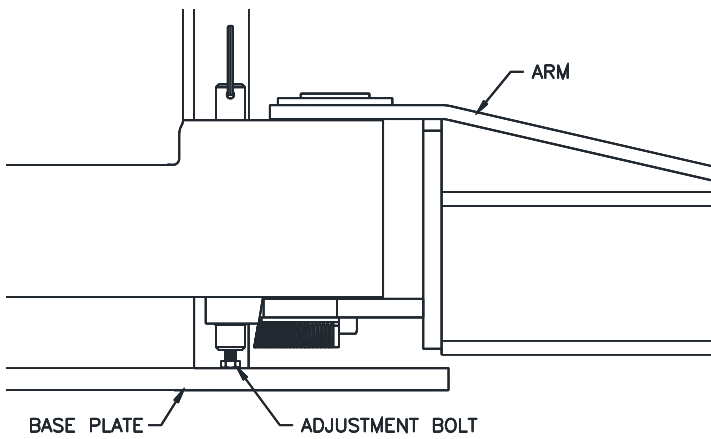

Fig. 19-Bolt Adjustment
- 43) Adjust the hex head bolt in the bottom of the arm restraint shaft so the arm is allowed to rotate freely when lift is completely lowered, **Fig. 19**.